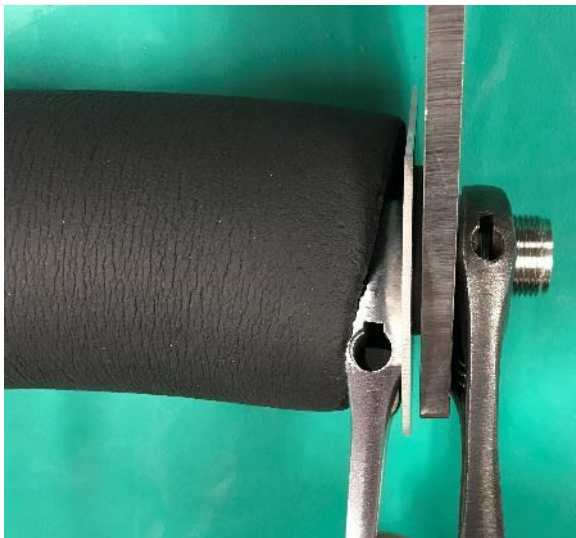

Figure 223. Remove the Bracket.
STEP 11 | Remove the bracket using a wrench to stabilize the right side and wrench to remove the nut on the left side (**Figure 223**).